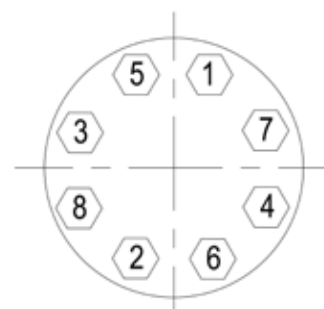

Fig 1. Flange bolt tightening sequence
5. Insert 4 bolts into bolt holes 1 to 4 (Fig. 1) and locate the gasket on the bolts carefully to prevent damage to gasket surface. Fit an appropriate size of washer under each bolt head and nut.
- a) Tighten nuts to 1/3 of the estimated torque value following the tightening sequence (Fig. 1)
- b) Tighten nuts to 2/3 of the estimated torque value following the tightening sequence (Fig. 1)
- c) Tighten nuts to the full estimated torque value following the tightening sequence (Fig. 1)